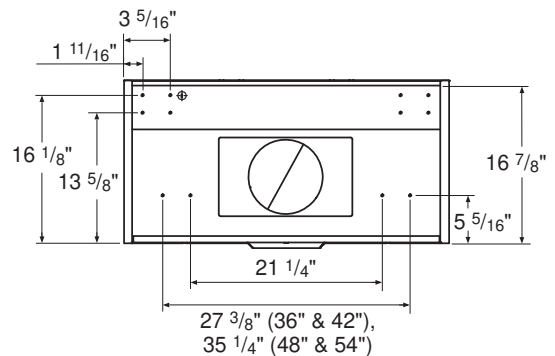

FIG. 2
- Insert two M6 wood screws into the wall through the screw holes in the lower body. See Fig. 2 for dimensions between screw holes.